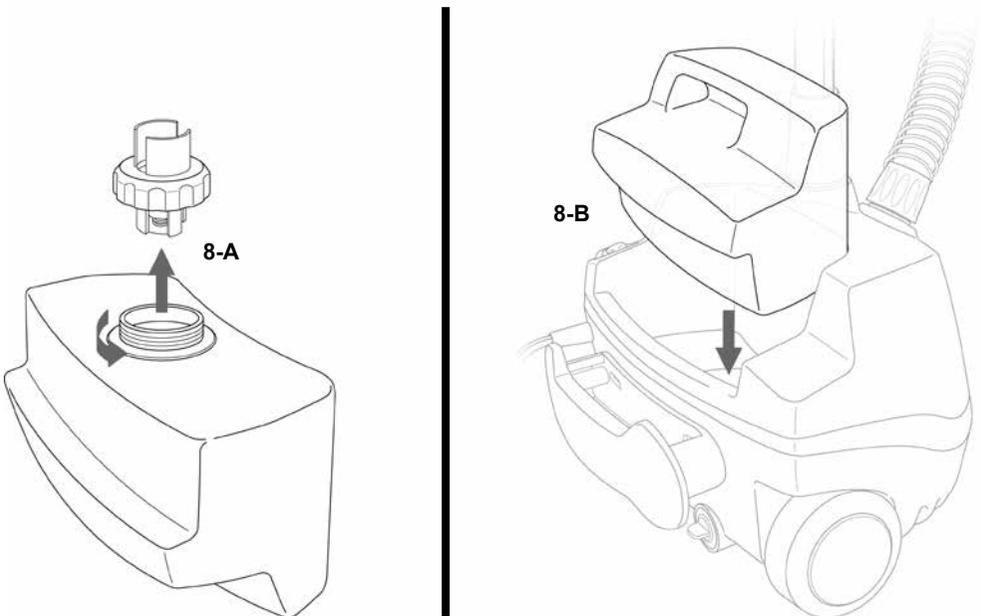

FIGURE 8
2. Holding Water Tank upside-down, unscrew and remove Valve Cap by rotating it in a counter-clockwise direction (FIGURE 8-A).
5. Place Water Tank back onto main unit (FIGURE 8-B). The sound of water flowing from Water Tank into Water Reservoir should be audible for a short period of time.